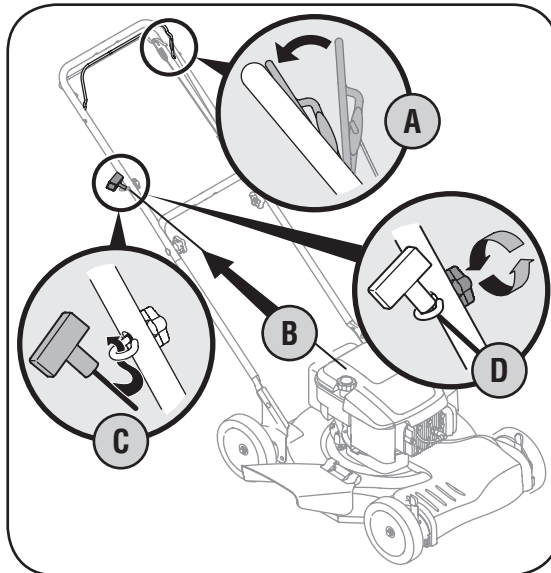

Figure 3-5: Pull recoil starter through rope guide and tighten.
5. Follow the steps below to secure the recoil starter. See Figure 3-5.